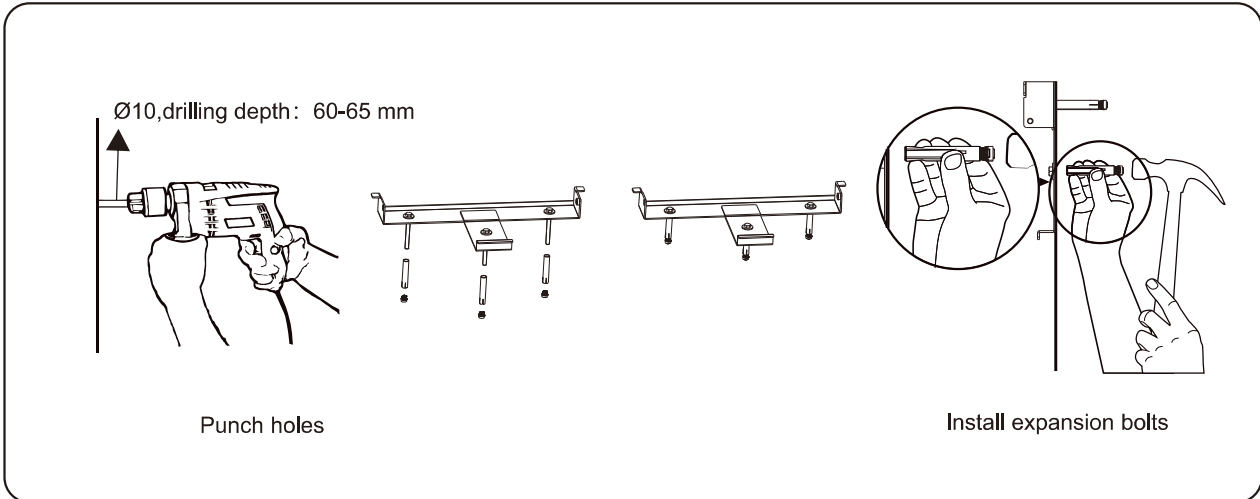

Figure 4.11 Punch holes and install expansion bolts (unit: mm)
**Step 4** Drill holes using a hammer drill, insert the threaded bolts (with nuts and sleeves removed) through the holes of the rear panel (install the nuts and sleeves then), secure the rear panel partially on the wall by knocking the bolts completely into the holes using a rubber mallet, as shown in Figure 4.11.